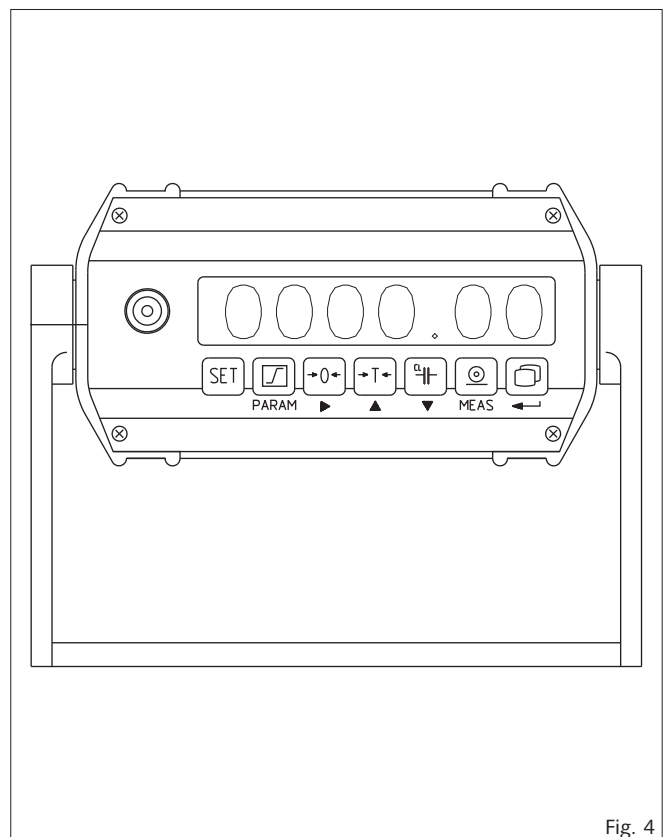

Fig. 4
- Reset measurement amplifier to zero: button , see Fig. 4.